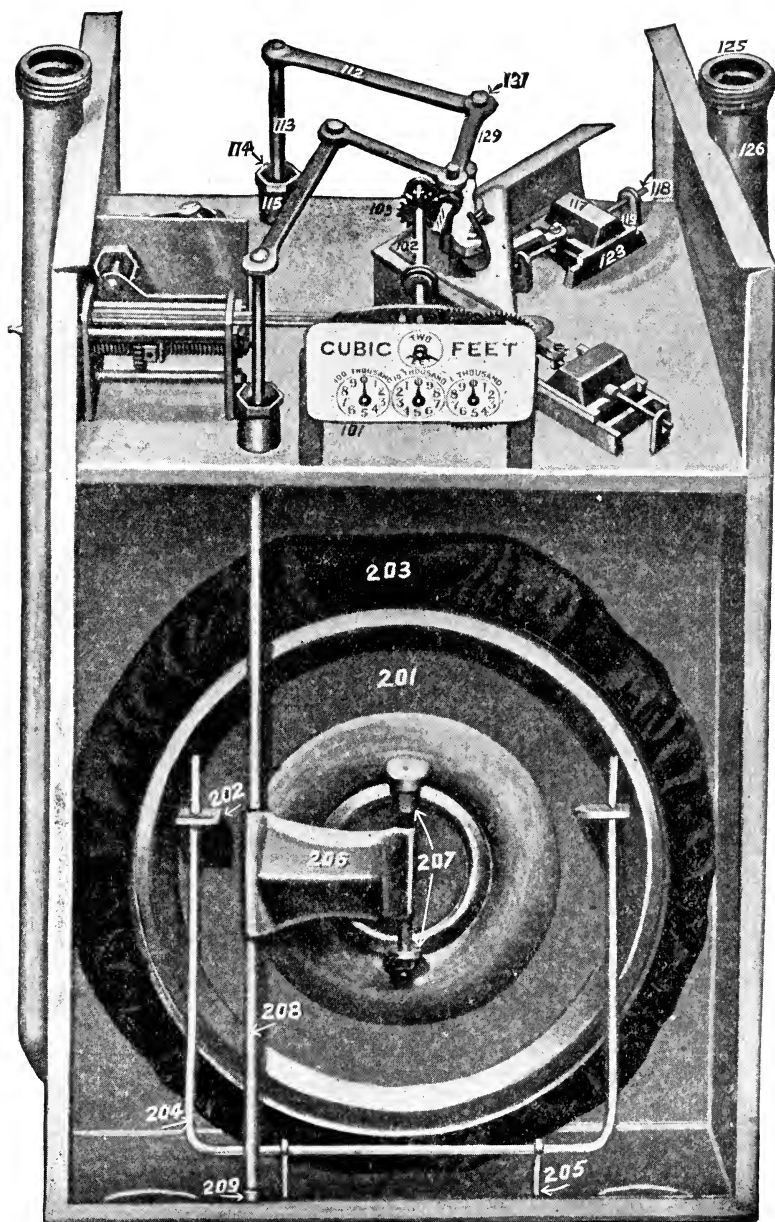

FIG. 115.—Interior of dry gas meter.
**Description of a Gas Meter.**—The external appearance of the meter is well known. The interior is shown in Fig. 115, with the front and top of the meter and the top of the valve chamber removed. Essentially the meter consists of four chambers which are filled and emptied of gas by the action of the meter mechanism. The number of times this filling and emptying of the measuring chambers is repeated is indicated on the dial in cubic feet. Two of the measuring chambers are shown in the figure. One is the space between the disc (201) with attached leather diaphragm (203) and the middle partition (the plate just behind the diaphragm) of the meter. The other is the space between this same disc and diaphragm and the outside walls of the meter. The other two measuring chambers are like the two described, and are situated symmetrically to them on the opposite side of the middle partition. The filling and emptying of the measuring chambers is effected by the backward and forward movement of the discs. These discs operate in conjunction with the valves and recording mechanism (see Fig. 115) above the measuring chambers. Each set of two measuring chambers thus constitutes a kind of double-acting bellows, the number of times these are filled and emptied being a measure of the amount of gas passed through them. The power for operating this very simple and effective instrument is furnished by the pressure of the gas itself which acts upon the discs, pushing them back and forth, just as the power to operate the steam engine is furnished by the steam which presses upon the sides of the piston. The index (101) upon which the volume of gas passed is recorded is connected with